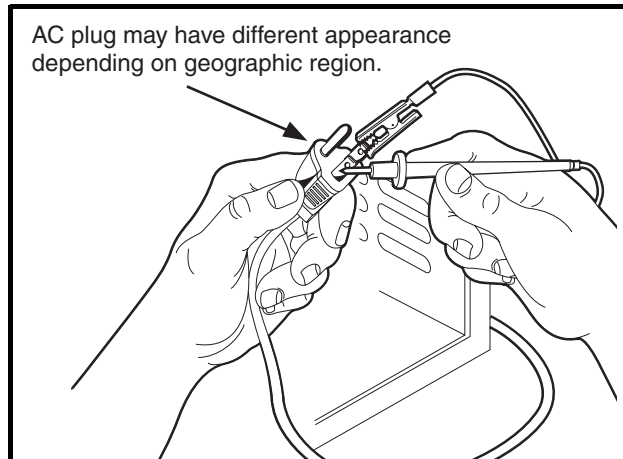

Figure 3-20 AC Cord Test
- 5.3. With relay bypassed, there should be continuity across the AC cord blades (**Figure 3-20, Page 3-22**).